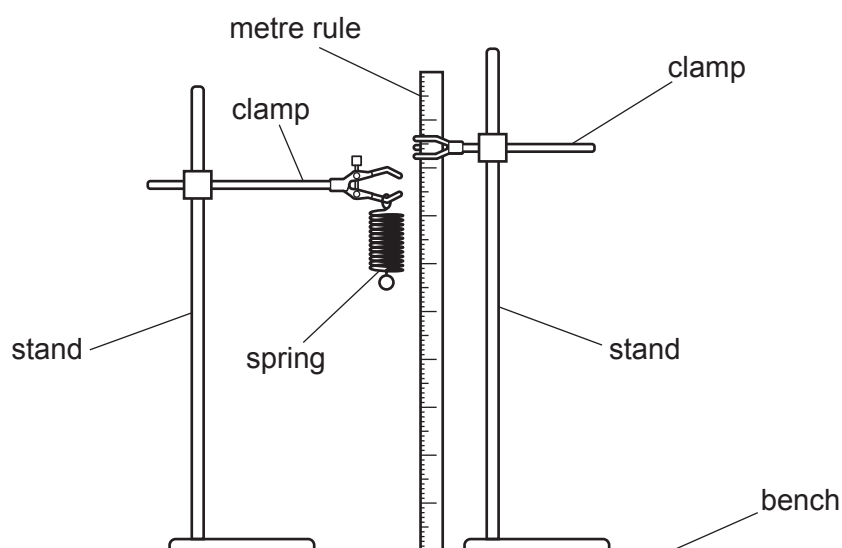

Fig. 5.1
- The apparatus is to be set up for candidates as shown in Fig. 5.1. The spring must be sufficiently high above the bench so that when the 5.0N load is suspended from the spring, the bottom of the load is above the surface of the bench.
Restore the apparatus to the set-up shown in Fig. 5.1.